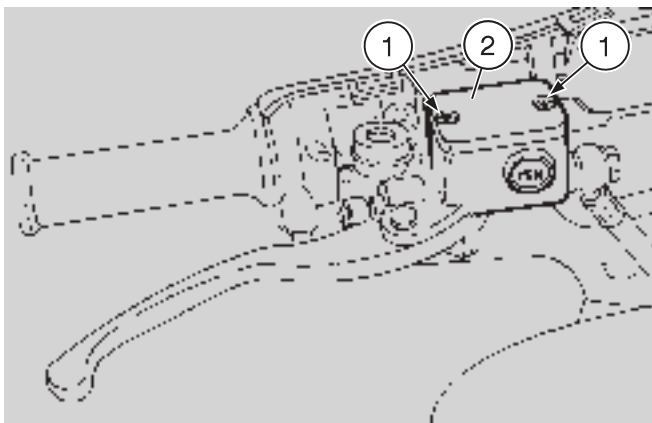

Fig. 16
- ◆ Unscrew the two screws (1-Fig. 16).
- ◆ Remove the cover (2-Fig. 16).
- ◆ Put back the cover (2-Fig. 16).
- ◆ Screw and tighten the two screws (1-Fig. 16).